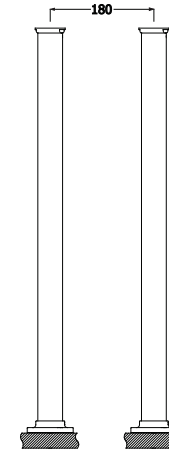

Fig. 2
- Install the legs into the floor using screws\* and sleeves\* as shown in Fig. 2;